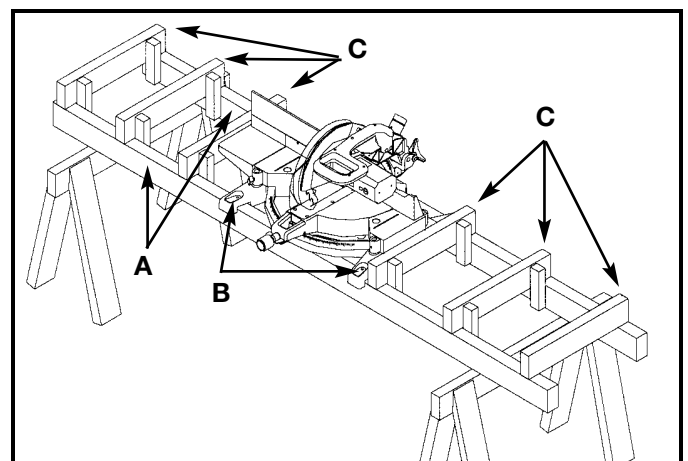

Fig. 36
For support when cutting long pieces, construct a work support extension. Fig. 36 illustrates the miter saw mounted on two standard 2 x 4's (A). Fasten the four mounting legs (two of which are shown at (B) Fig. 36 to the 2 x 4's, using four screws (not supplied) through the four holes in the mounting legs. The length of the 2 x 4's (A) can vary, depending on the workpiece.